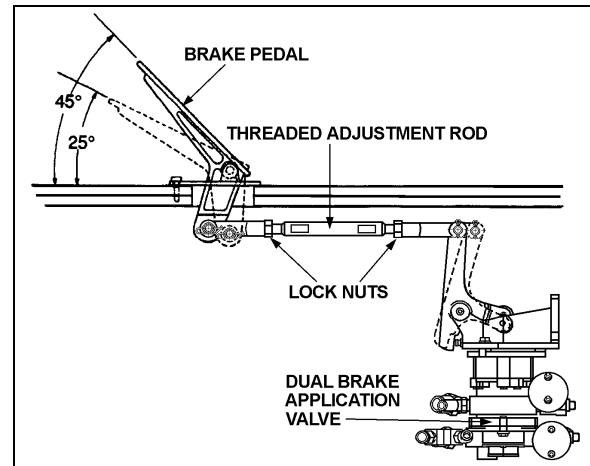

FIGURE 13: BRAKE PEDAL ADJUSTMENT 12208
The E-10P dual brake valve is a floor mounted, foot-operated type brake valve with two separate supply and delivery circuits. This valve is located in the front service compartment (Fig. 13).
1. Replace the linkage, loosen threaded rod lock nuts and screw or unscrew the threaded adjustment rod in order to obtain a 45° brake pedal inclination (Fig. 13).